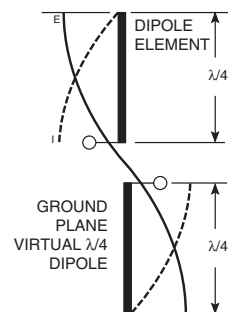

Figure 24: Dipole Antenna
4. In many antenna designs, particularly  $\frac{1}{4}$ -wave whips, the ground plane acts as a counterpoise, forming, in essence, a  $\frac{1}{2}$ -wave dipole (Figure 24). For this reason, adequate ground plane area is essential. The ground plane can be a metal case or ground-fill areas on a circuit board. Ideally, it should have a surface area less than or equal to the overall length of the  $\frac{1}{4}$ -wave radiating element. This is often not practical due to size and configuration constraints. In these instances, a designer must make the best use of the area available to create as much ground